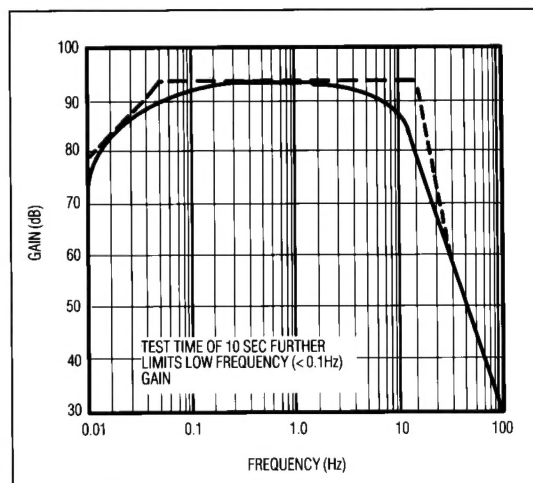

Figure 6. 0.1Hz to 10Hz Vp-p Noise Tester Frequency Response
3. As shown in Figure 6, the 0.1Hz corner is defined by only one zero. A maximum test time of 10sec acts as an additional zero to eliminate noise contributions from the frequency band below 0.1Hz.